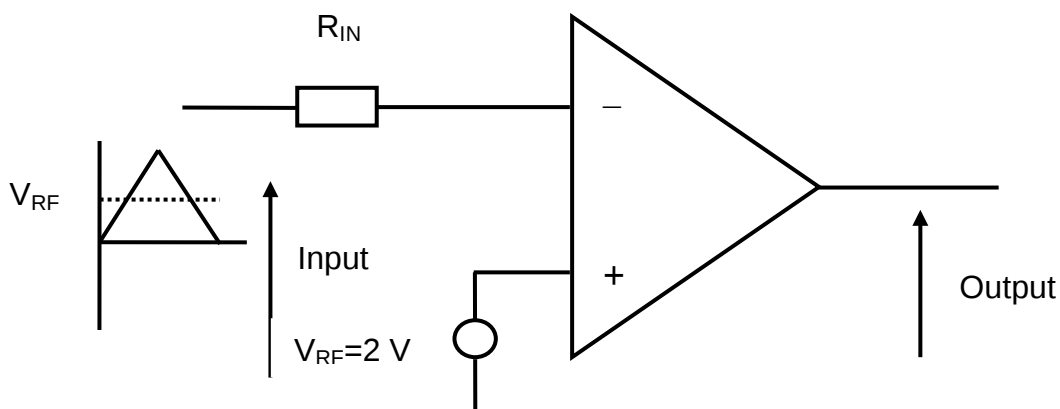

FIGURE 7.2: OP-AMP CIRCUIT
- 7.3 FIGURE 7.2 below is an op-amp circuit.